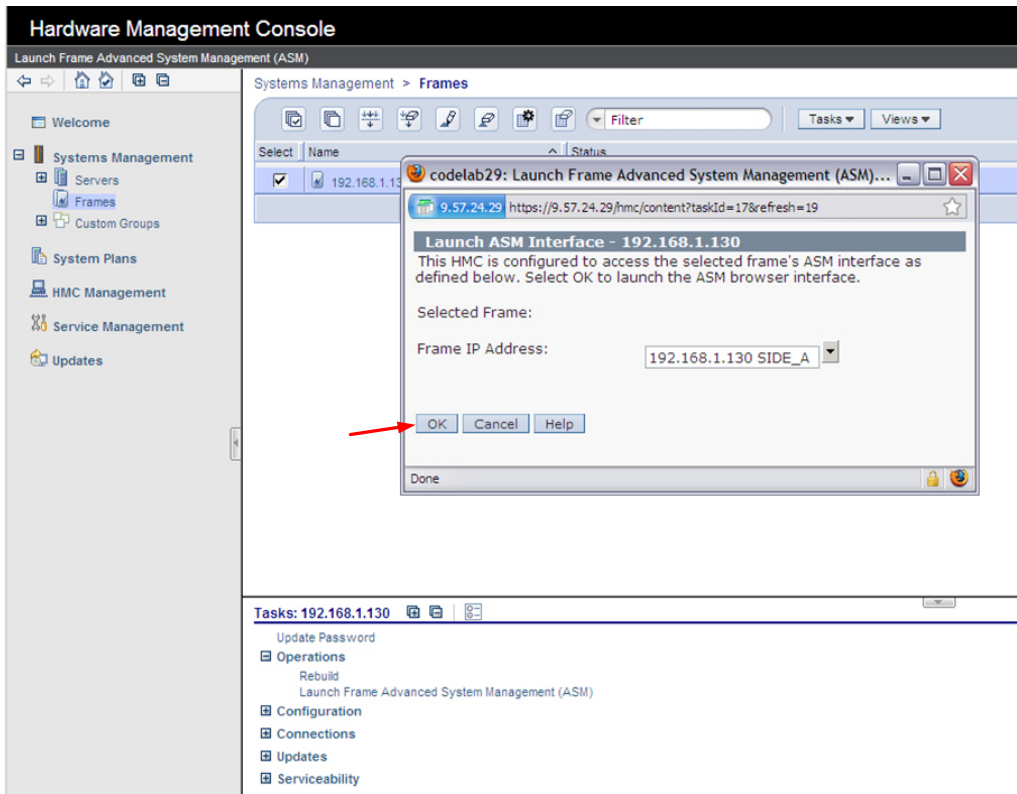

Figure 61 Select BPC FSP SIDE\_A
5. From the Launch ASM Interface window, select **SIDE\_A** or **SIDE\_B** (whichever the instructions call for) from the 'Frame IP Address:' pull-down arrow menu, then click the **OK** button (see Figure 61 which shows the **SIDE\_A** BPC FSP selected)